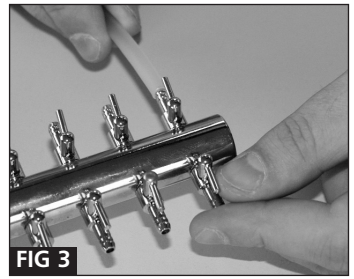
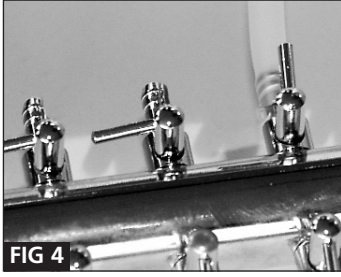

FIG 3
FIG 4
- Push the 4mm air tube onto the end of one of the metal manifold outlets and ensure it is securely in place (See Fig 3). Open the manifold outlet valve (See Fig 4).